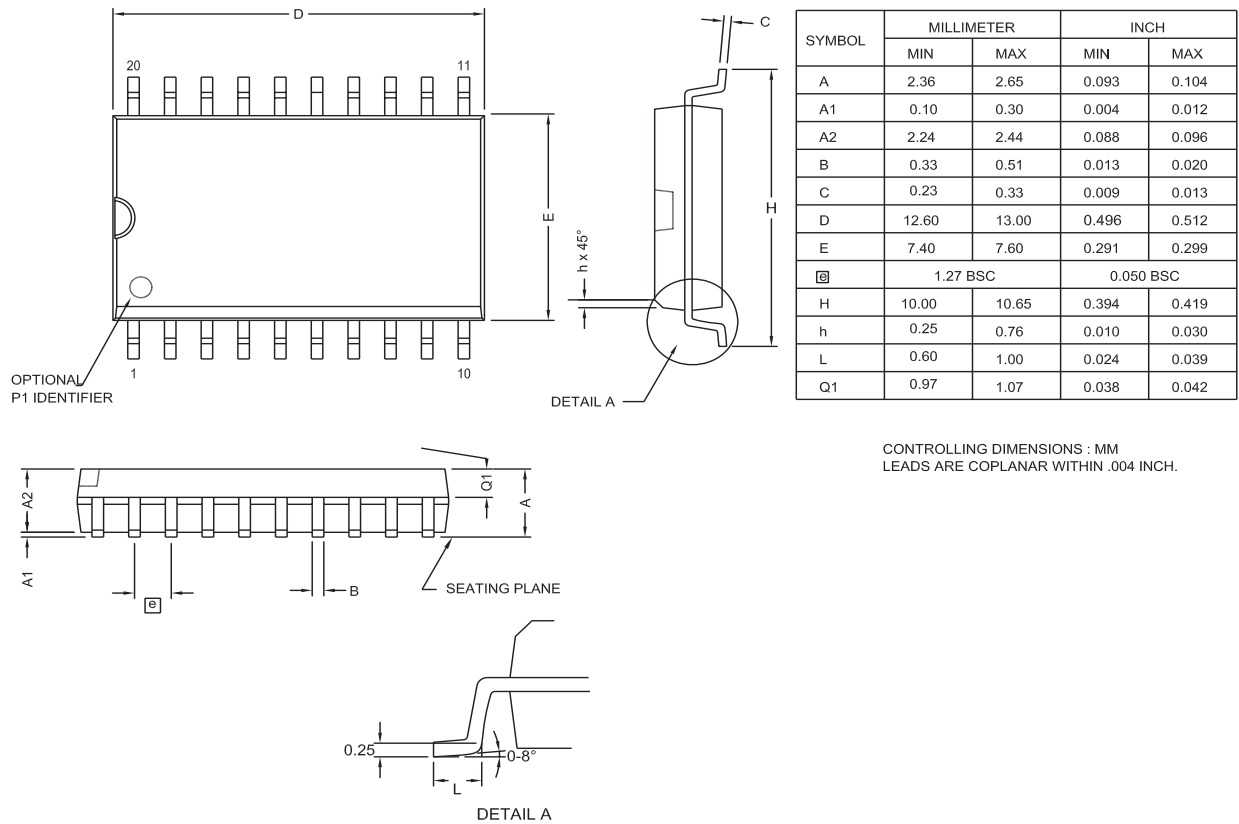

Figure 37. 20-Lead Small Outline Integrated Circuit
- 20-lead (Figure 37 on page 33)